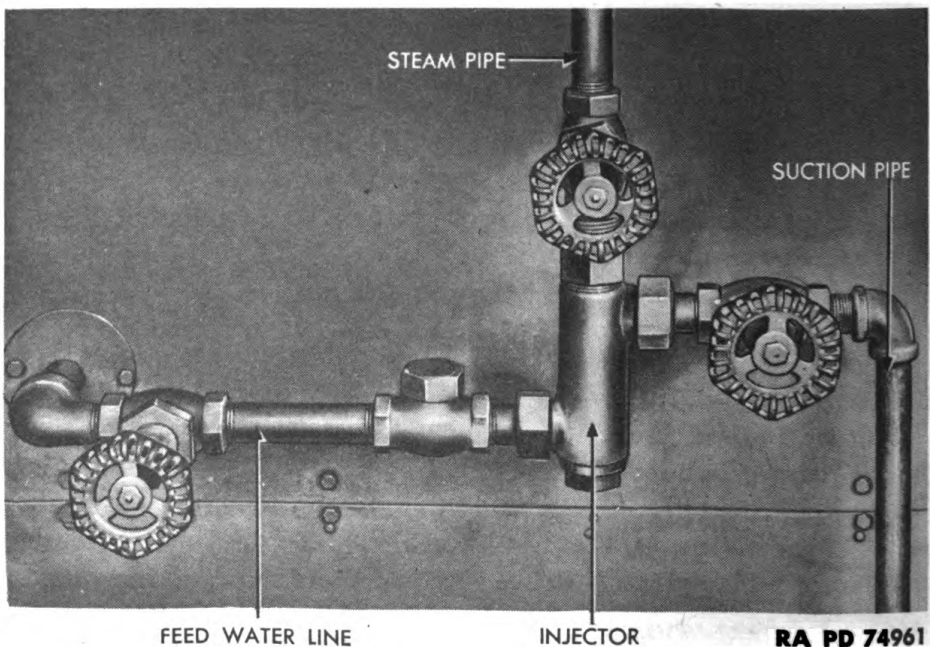

Figure 111 — Steam Generating Plant Water Injector
- (1) REMOVAL (fig. 111).
- (4) **INSTALLATION** (fig. 111).